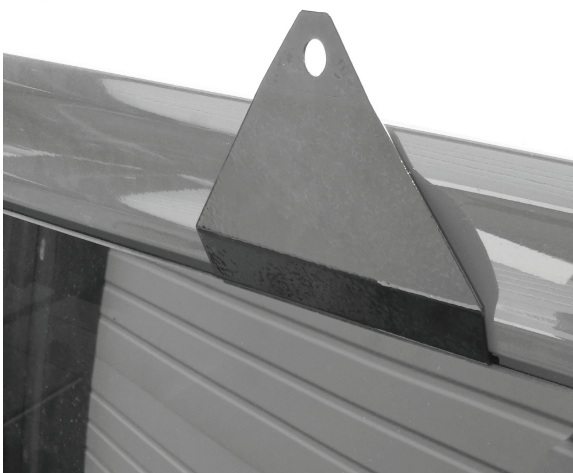
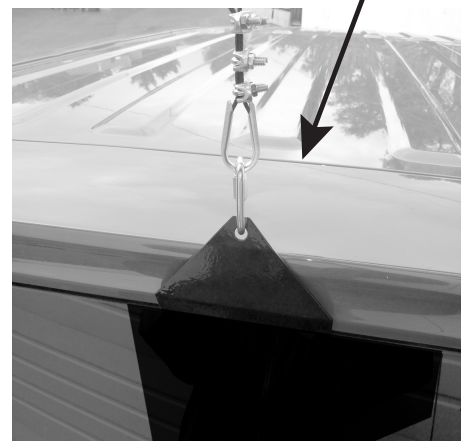

Fig. 2
Fig. 3
Step 2: Close the window after the hook is nested on the top (Fig. 2) and attach the thimbal and cable that you have set-up following the included instructions (Fig. 3) to the quick-link. Thread the quick link closed. Reverse process when putting top back on.